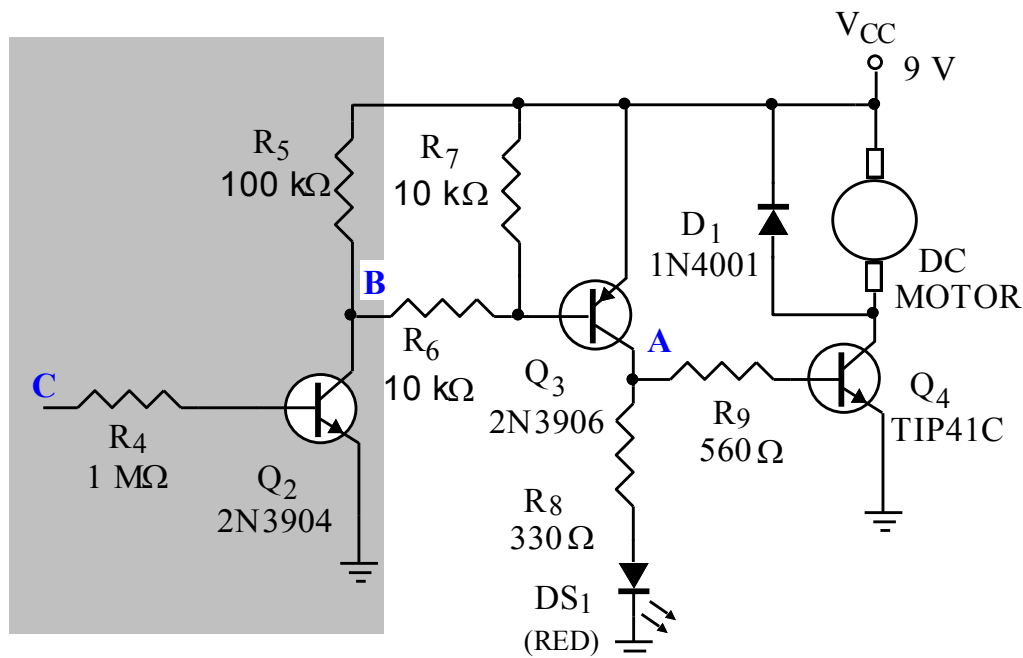

Figure 5-39.
The timer circuitry employs two separate transistor switches, and a capacitor. We add transistor switch Q_2 to our composite schematic diagram in Fig. 5-39. When point C is HI transistor Q_2 is ON. When transistor Q_2 is ON, point B is taken to ground (LO). This turns Q_3 ON. When Q_3 is ON, the LED is illuminated, Q_4 is ON, and the motor is energized.